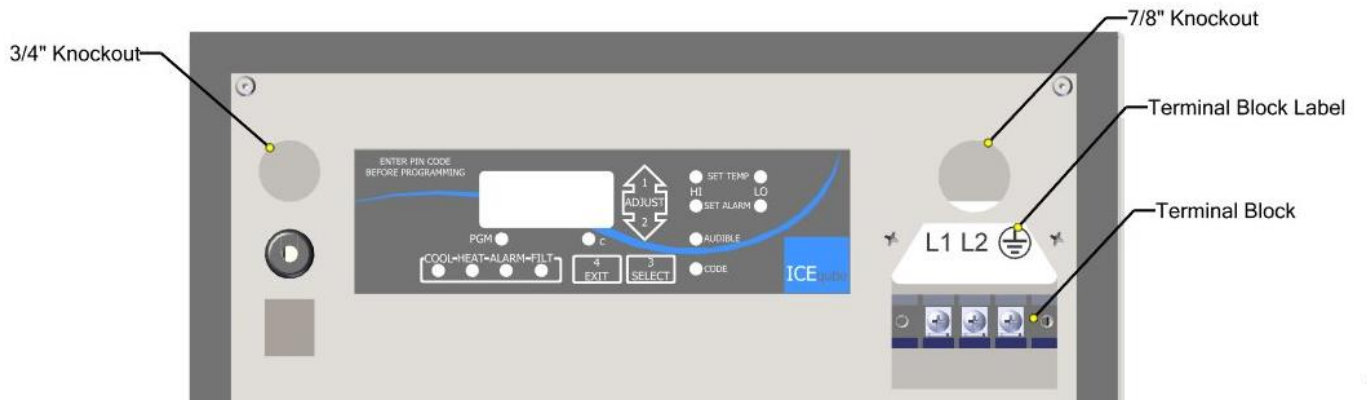

Figure 4: Terminal Block
4. The terminal block will be used for power. (See *Figure 4: Terminal Block*)